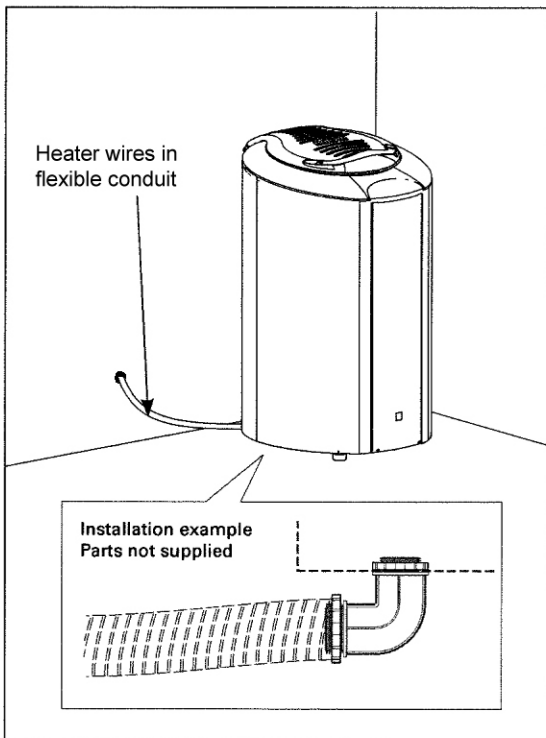

Figure 8. Connections of the heater
2. See applicable wiring diagram for heater model (figures 8–9, see control unit manual for detailed instructions how to connect the heater and the control unit). Heater must be permanently installed (no pigtails or plugs allowed) and wiring must be done by a licensed electrician, who must follow wiring diagram provided and adhere to local codes. Use proper A.W.G. rated wire size and use copper wire suitable for 90 °C within sauna walls. Use grounding terminals provided in sauna heater and control unit to properly ground the equipment as per NEC and local codes.